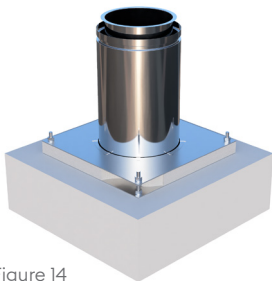

Figure 14
8. Continue with the installation of the venting system, ensuring that there are no joint within the structure or 350mm above the surface of the Top Plate and Drum (C) as Figure 14. Once the vent section has been passed through the FastTrack assembly, check that the insulation has not been compromised within and the insulation is tight up against the internal drum and covering the full surface area of the plates.